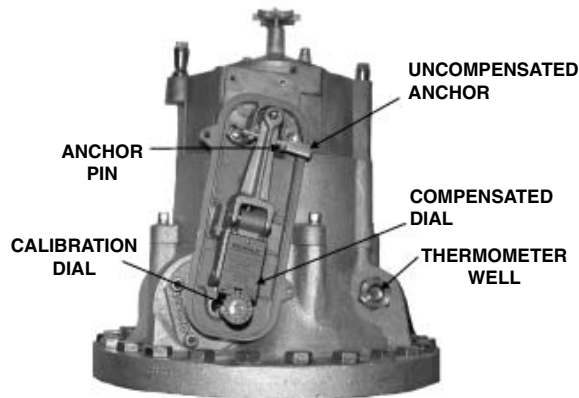

FIGURE 11
1. Remove the two seal screws and cover from the temperature compensator. (See Figure 11). Do not remove sealing wax at top of lever arm.
2. Move anchor pin from "Compensated Anchor" to "Uncompensated Anchor." (Flowmeter readings will now be uncompensated.) (See Figure 11).